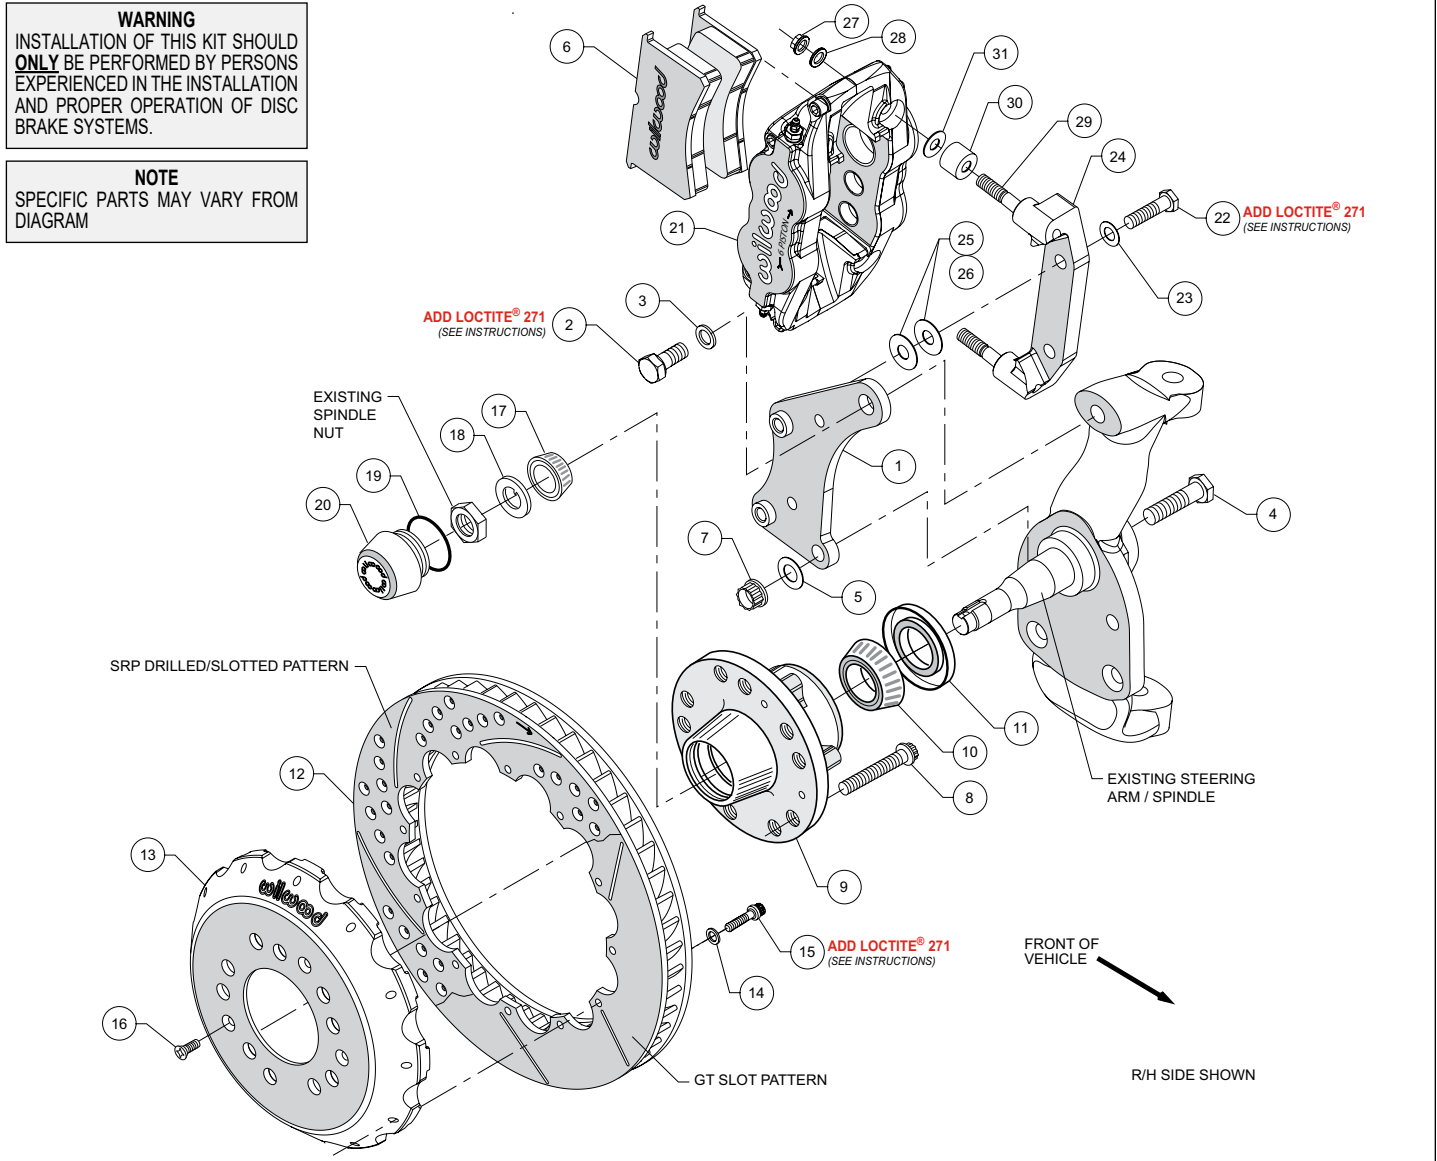

Figure 1. Typical Installation Configuration
•Mount the radial mount caliper bracket (24) to the first "flat" caliper mounting bracket (1) from the far side by sliding bolt (22) through washer (23). Place two .030 thick flat washers (26) between the two brackets (1 and 24) before sliding the mounting bolts (22) all the way into the first caliper mounting bracket (1). Finger tight only.
•**NOTE:** This kit contains distinct right and left hand calipers that must be mounted in a specific direction, as described below. Install spacer (30) and one shim (31) over each stud (29) on the radial mount bracket (24). Slide the caliper (21) in place over the studs and rotors and install the washer (28) and lock nut (27) to hold the caliper in place, Figure 1. Ensure that the caliper is mounted so that the largest pistons are at the rotor exit end of the caliper, in relation to the direction of rotor rotation. Snug the lock nuts (27) and check that the rotor (12) is centered in the caliper (21). Add or subtract .030" shims (26), or add additional .015" shims (25), as necessary between the radial mount bracket (24) and the flat bracket (1) to center the caliper. Finger tighten and recheck alignment. Use as many shim washers (combination of 25 and 26) as necessary to achieve the correct alignment. Apply red *Loctite*® 271 to bolt threads (22) and torque to 60 ft-lb.